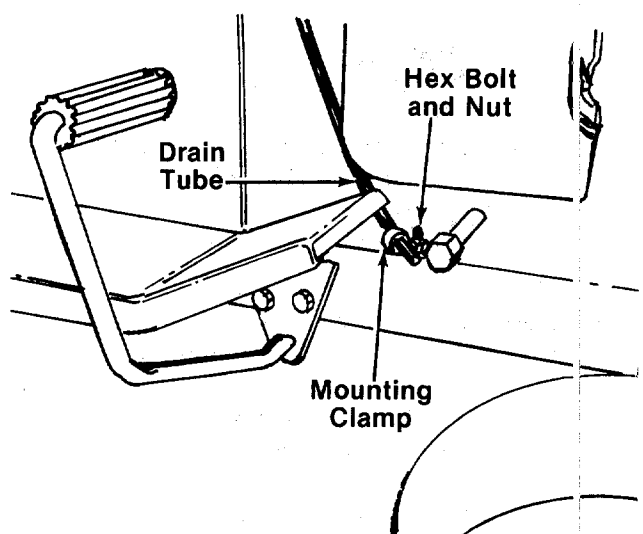

FIGURE 3.
**16 and 18 H.P. Tractor**—Slip the end of the drain tube into the mounting clamp provided in hardware pack. Secure the mounting clamp to the tractor by placing the clamp over the hex bolt and nut which hold the engine pulley belt guard to the frame. Secure in place with hex lock nut provided in hardware pack. See figure 3.